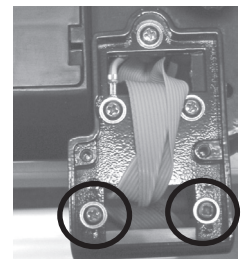

Fig. 6-1
3. Remove two screws, located on either side of data ribbon (Fig. 6-1).